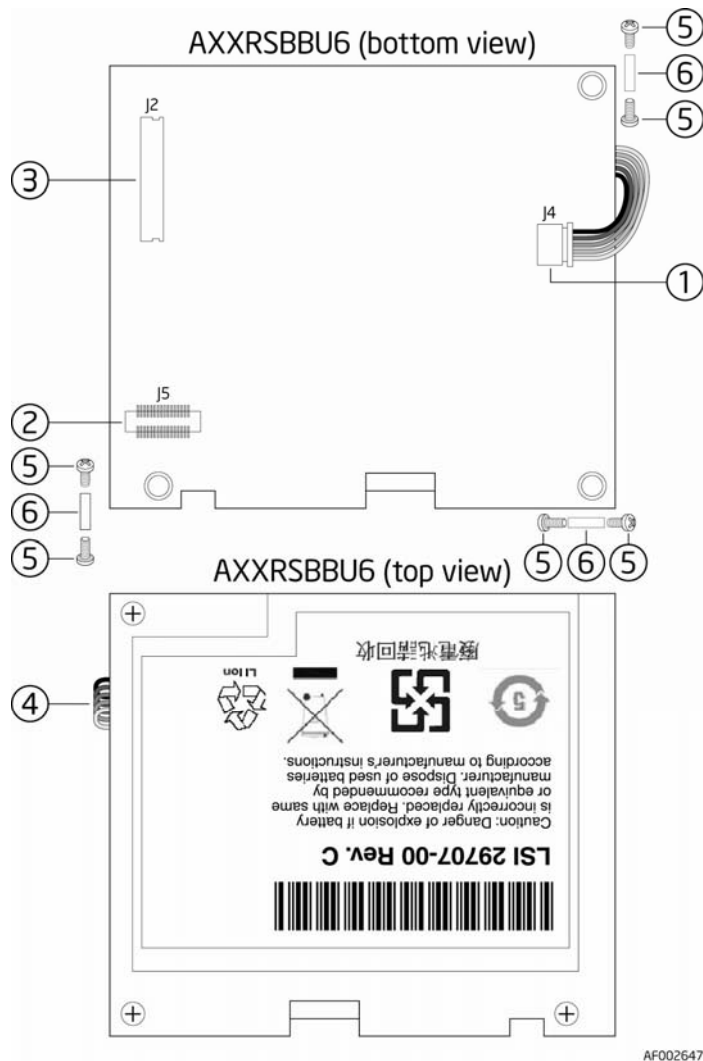

Figure 1. Top and Bottom View of the AXXRSBBU6
- Figure 1. Top and Bottom View of the AXXRSBBU6 3
Figure 1 displays the top and bottom views of the AXXRSBBU6. The battery pack is mounted on a daughtercard which mounts to the RAID controller. Take note of the location of the J2 connector (5) which plugs into the Intel® RAID Controller and the 3 standoffs (2) and 6 screws (3). Only the top side of the daughtercard will be visible after installation onto the RAID controller.
2. Insert the battery pack harness connector (number 4 in Figure 1) at the end of the colored wires into the 5-pin J4 connector (number 1 in Figure 1) on the backside of the AXRSBBU6.
7. Place the three standoffs (#6 in Figure 1) between the two cards in the three screw holes.
9. Secure the AXXRSBBU6 to the RAID controller with the 6 provided Phillips (2-56) screws (#5 in Figure 1). The standoffs are threaded at both ends and a 2-56 screw goes into each end. (Place 3 in from the battery side and 3 in from the RAID controller side.)